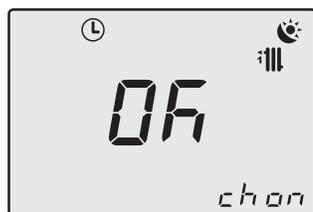

Fig. 2.23
Press key 19 briefly to save the values entered and upon leaving the menu, the display will indicate **OK** to confirm (Fig. 2.23).